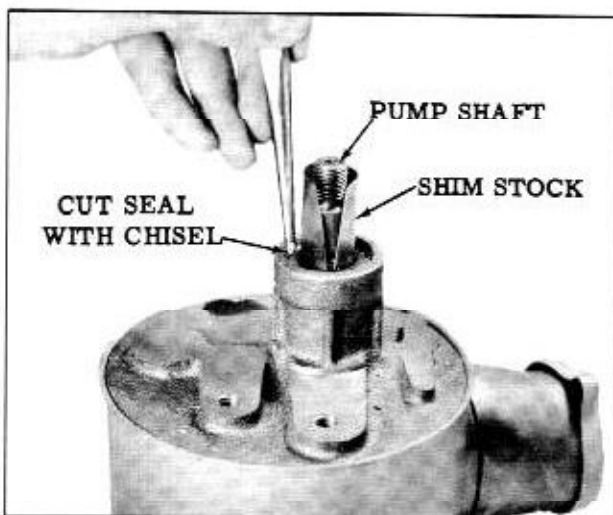

Fig. 4-21 Cutting Seal
1. With the pump pulley removed, bend a piece of .005" shim stock (approximately 2-1/2" long) into a cylindrical shape, then push the shim stock past seal until it bottoms in pump body. (Fig. 4-21)
2. Cut metal body of seal with a small chisel as shown in Fig. 4-21.